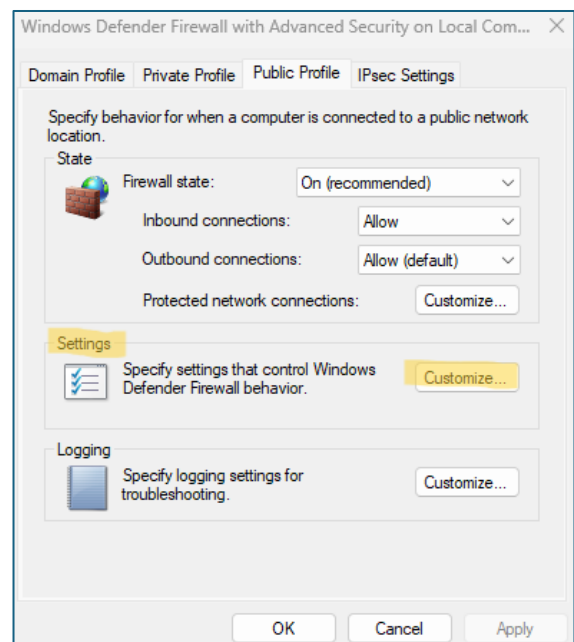

Figure 55 Windows Defender Firewall Public Profile settings with access to customized firewall behaviour settings.
- a. Open the active profile tab (for example, **Public Profile**) and click **Customize** under **Settings**. Figure 55.